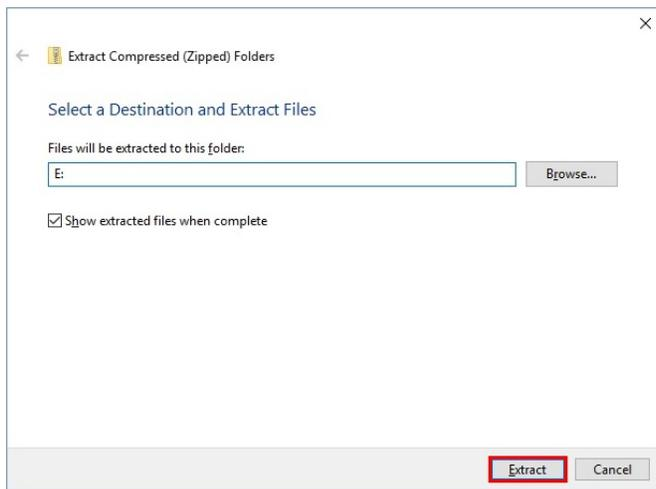

**Figure 2-8: Select a Destination**
8. Browse to the location on your District/Crew share drive (Figure 2-9) to extract the directory template (EDOCContractFiles) and click **OK** (Figure 2-8).